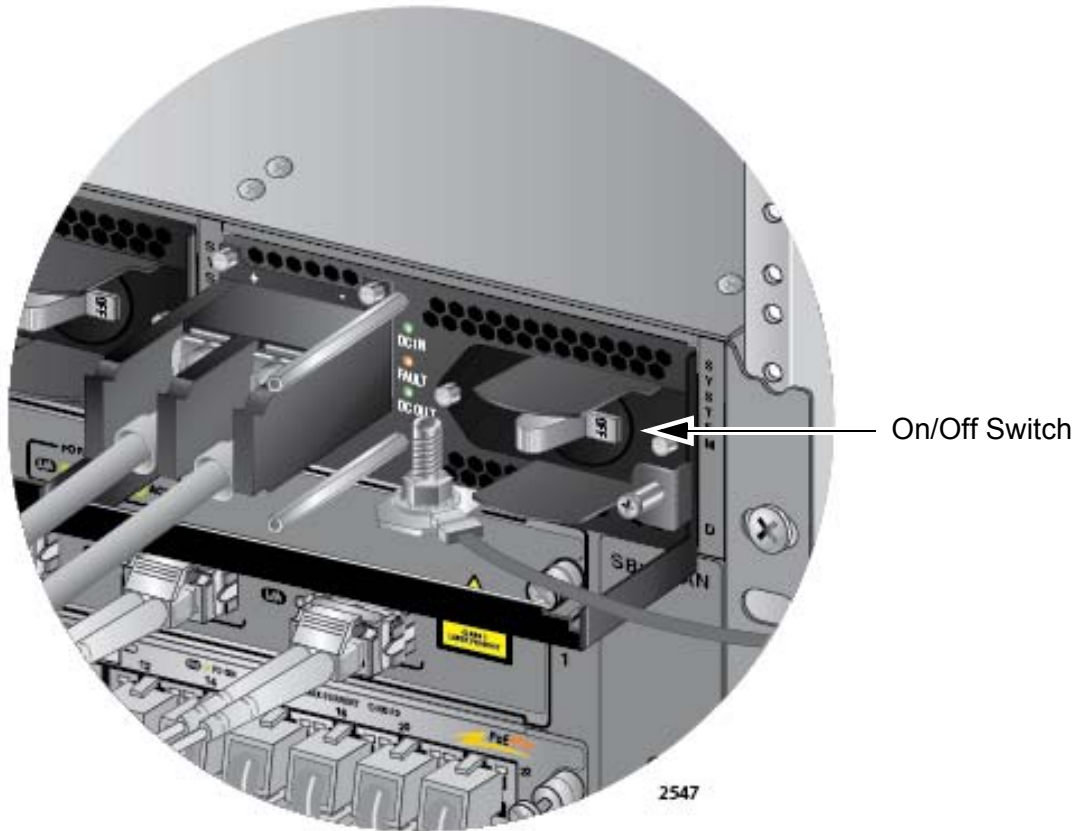

Figure 138. Turning On the Power Supply
10. Turn the On/Off switch on the power supply to the On position. See Figure 138 on page 180.